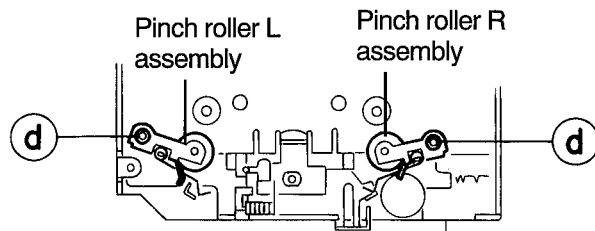

Fig. 5
■ Removing the Pinch Roller Assembly (See Fig. 5,6)
5. Detach the mylar washers ④ at the two positions securing the right and left pinch roller assemblies.